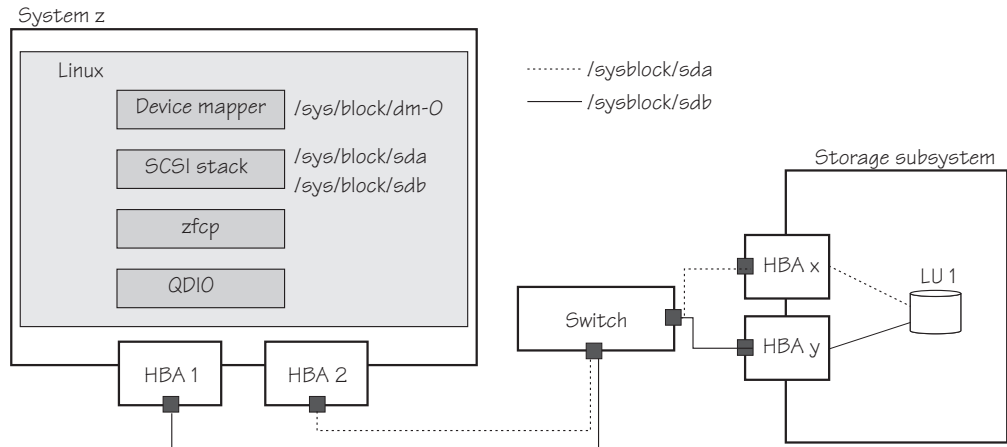

Figure 8. Multipathing with multipath-tools and device mapper
Redundant paths defined in Linux appear as separate SCSI devices, one for each logical path (see Figure 8 on page 14). The device-mapper provides a single block device for each logical unit (LU) and reroutes I/O over the available paths. You can partition the device-mapper multipath I/O (MPIO) devices or use them as physical volumes for LVM or software RAID.
Figure 8 shows an example multipath setup with two HBAs each for the mainframe and the storage subsystem.